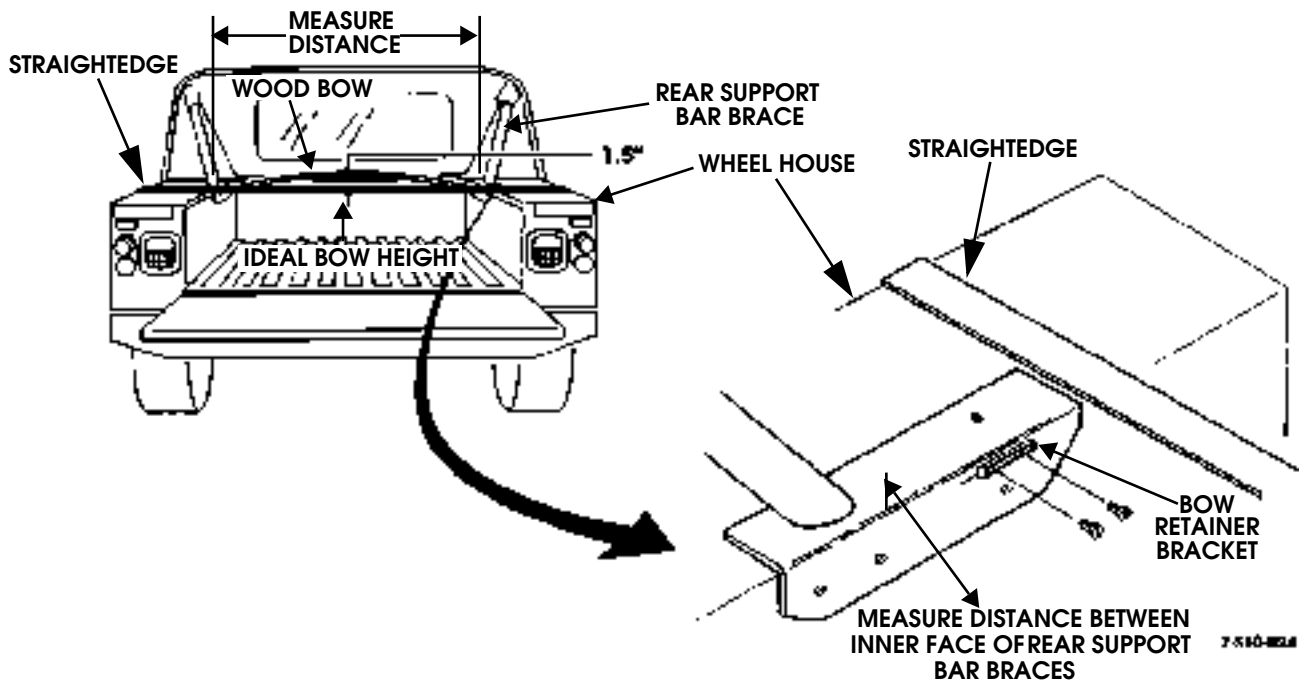

Figure 10-138: Bow Retainer Bracket Installation
22. Secure two bow retainer brackets to wheelhouses with four screws (Figure 10-138).
26. Position wood bow in two retainer brackets. Lay a straight edge across the wheel houses as shown (Figure 10-138). The ideal bow height is 1.5 in. from the straight edge to the bow crown.